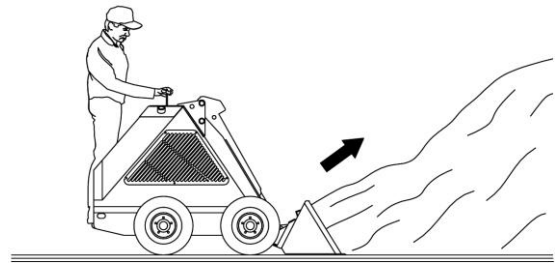

Fig. 12
2. As soon as the bucket is full, tilt the bucket back and reverse away from the pile, as shown in Figures 12 and 13.